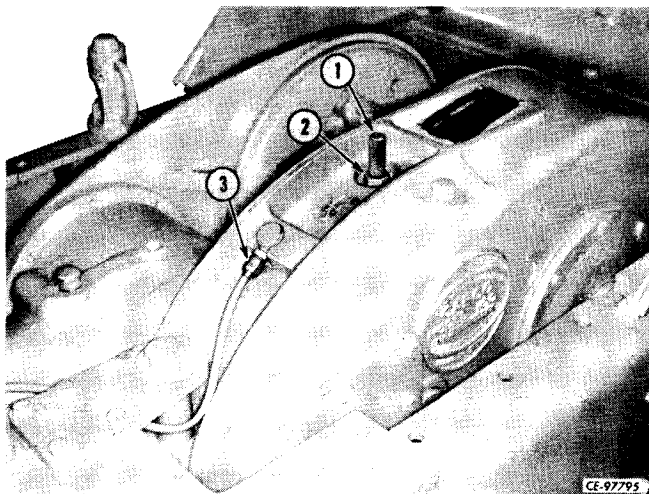

Figure 14-4
If hydraulic pressure is not available to release brake, loosen jam nut (2, Fig. 14-4) and tighten brake adjusting screw (1), using an allen wrench, until hole in bottom of the adjusting screw is exposed. Insert a 3/8" diameter pin or bolt and loosen adjusting screw until end of screw (1) is 1-1/2" above jam nut (2).